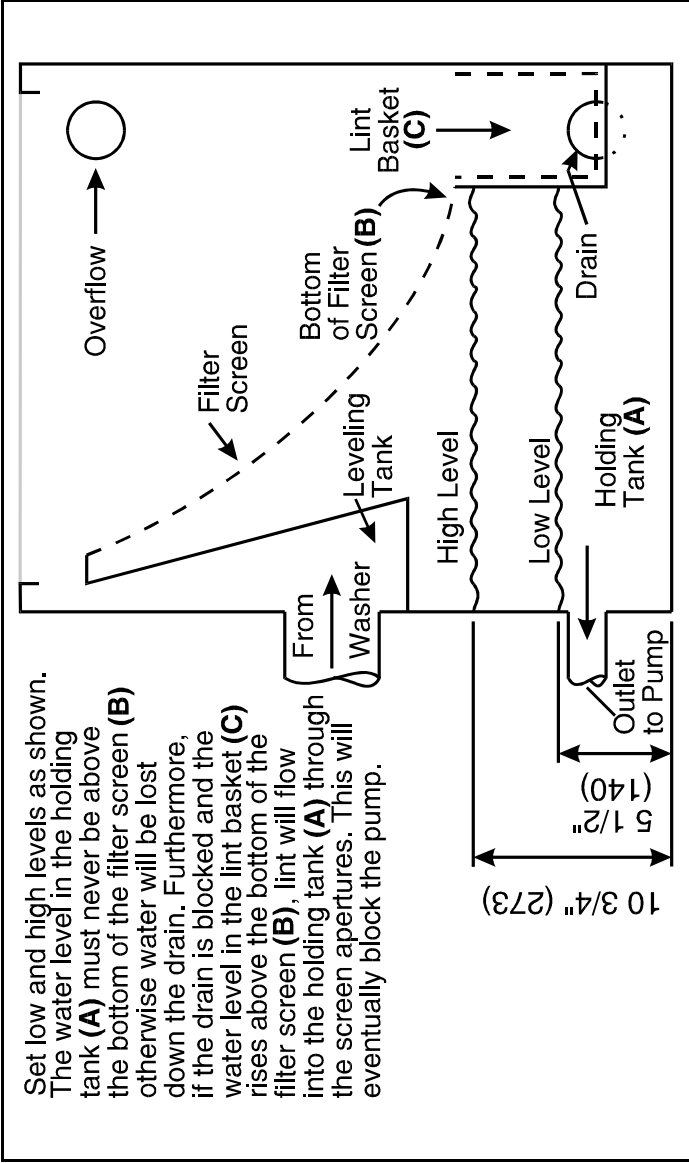

FIGURE 2 (MSSMD419AE)
2. Set the **HIGH LEVEL** adjustment clip on the float rod so the Surplus Pump turns **ON** (Rinse Zone Flow Splitter) or **Valve E** **OPENS** (Wash Zone Flow Lifter—FIGURE 2) when the level rises above the High Level dimension shown in FIGURE 4.